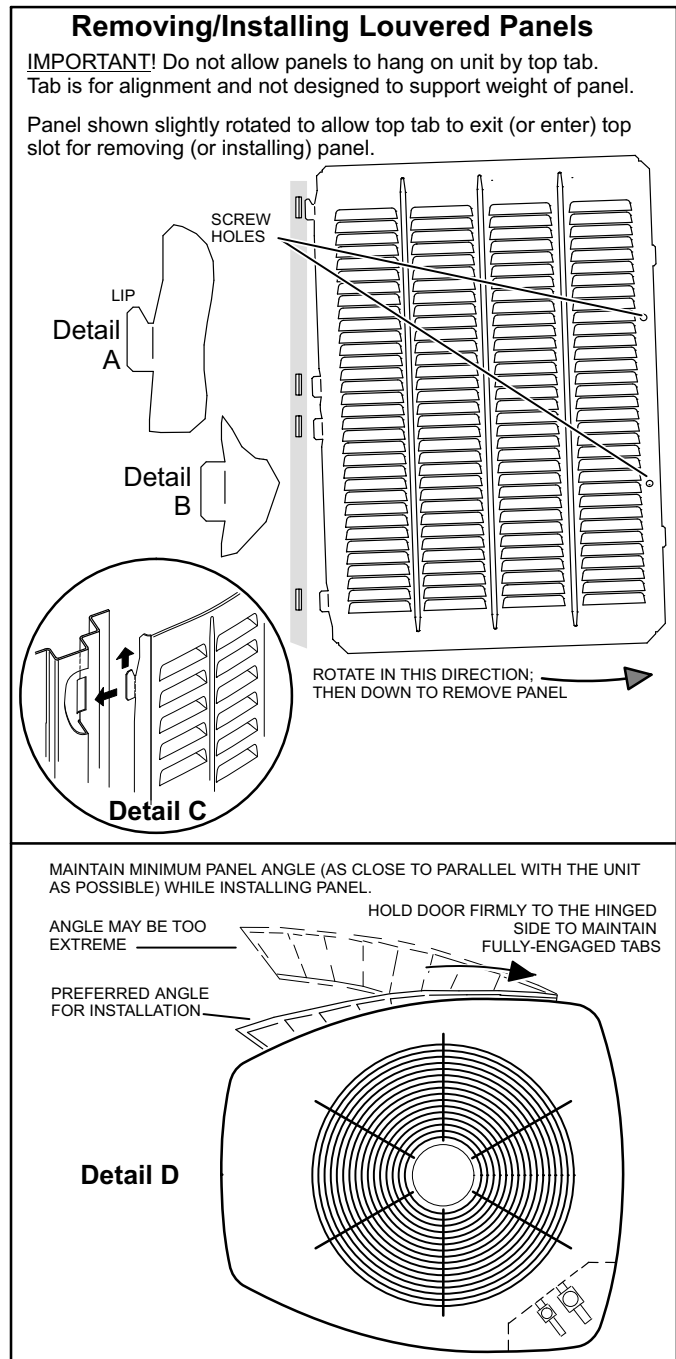

FIGURE 2
- 1 - Remove 2 screws, allowing the panel to swing open slightly (see figure 2).
- 2 - **Hold the panel firmly throughout this procedure.** Rotate bottom corner of panel away from hinge corner post until lower 3 tabs clear the slots (see figure 2, Detail B).
- 3 - Move panel down until lip of upper tab clears the top slot in corner post (see figure 2, Detail A).
Position and Install Panel—Position the panel almost parallel with the unit (figure 2, Detail D) with the “screw side” as close to the unit as possible. Then, in a continuous motion:
- Slightly rotate and guide the lip of top tab inward (figure 2, Details A and C); then upward into the top slot of the hinge corner post.